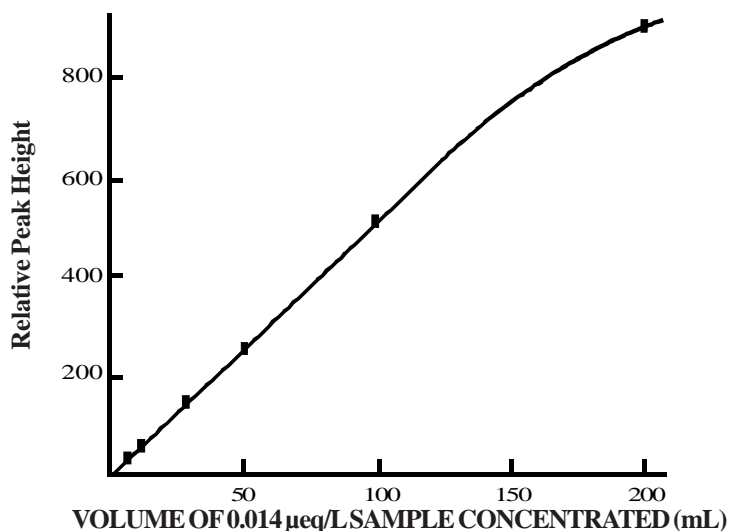

Figure 4
- D. A plot of response versus volume concentrated should be generated as in Figure 4 for determination of the maximum amount of sample or standards that can be quantitatively loaded. The break in the curve where linearity starts to change is 100 mL concentrated. For practical purposes the amount concentrated for a series of samples should be 75% of this value. This will ensure that there is a safety margin for samples in a series having slightly higher ionic concentrations.